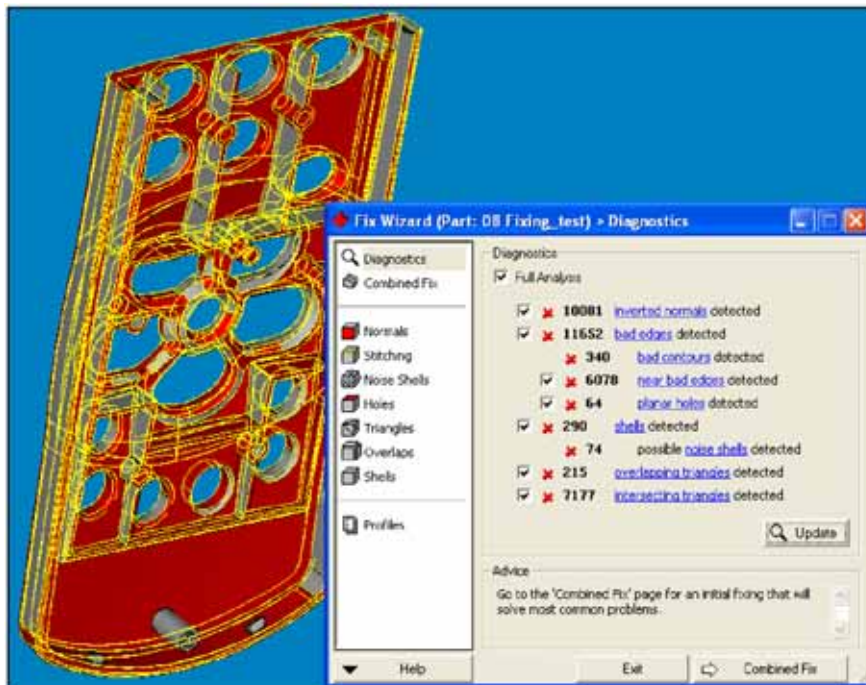

Figure 79: Model to fix -08 Fixing_test.stl
- The model for this exercise is shown Figure 79.